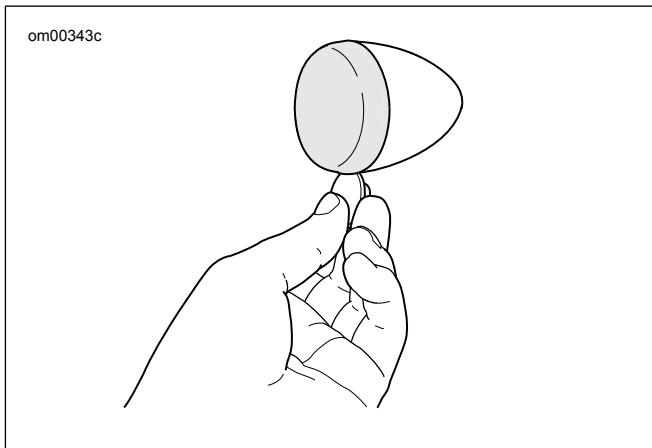

Figure 76. Remove Lens
1. See Figure 76. Insert coin in notch. Carefully twist until the lens cap pops out of the lamp housing.